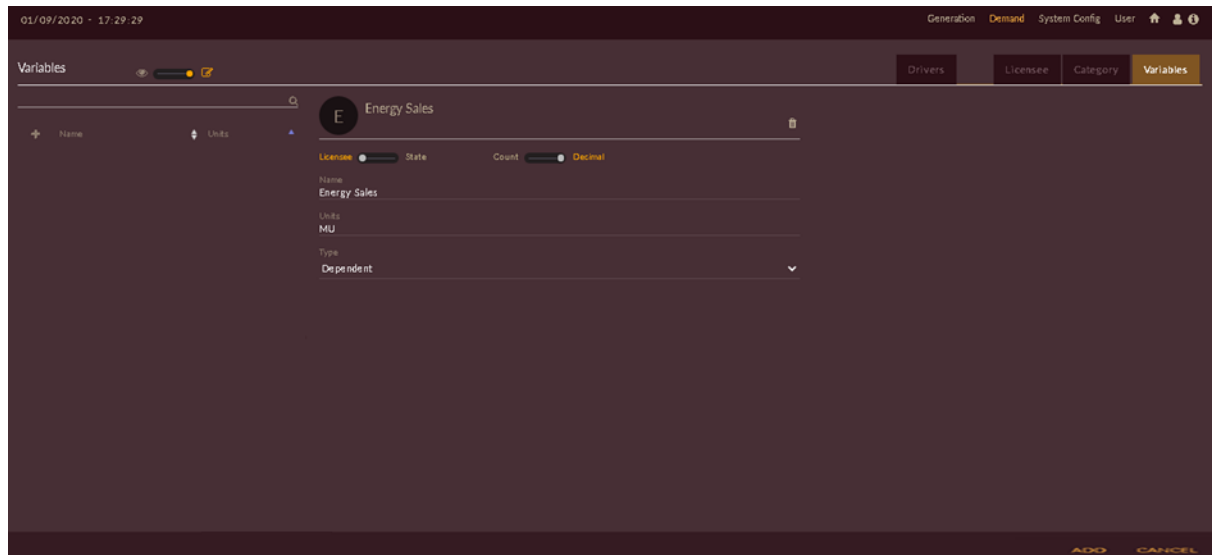

Figure 4. Energy Sales as Dependent Variable
- One default variable known as Energy Sales to be created which should be a Licensee and Dependent type as shown in Figure 4.